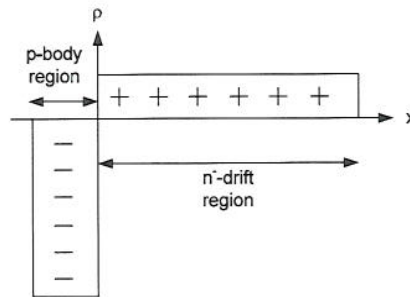

Figure 1 Charge distribution in an abrupt  $p$ - $n$  junction
- b) i) Assuming an abrupt junction between the  $p$ -body region and the  $n$ -drift region in the power MOSFET, as shown in Figure 1, what is the minimum length required of the drift region to block 200 V? You can assume that the vast majority of the voltage is blocked in the  $n$ -drift region and that the doping concentration in each region is constant. The maximum field strength in silicon before avalanche breakdown is 10 MV/m, the permittivity of free space is  $8.85 \times 10^{-12}$  F/m and the relative permittivity of silicon is 11.7. [3]